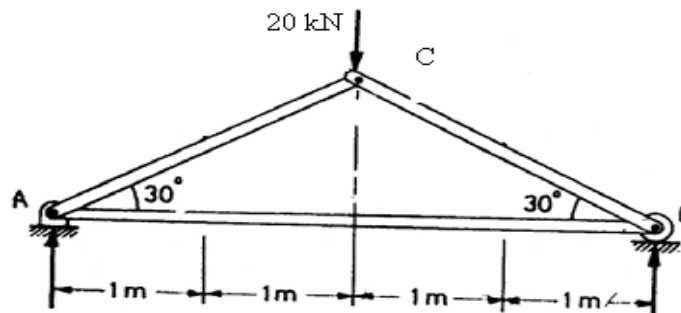

Fig:4
6. a). A Truss of Span 4 m is loaded as shown in fig.4. Find the reactions and forces in the members of the Truss. [10]